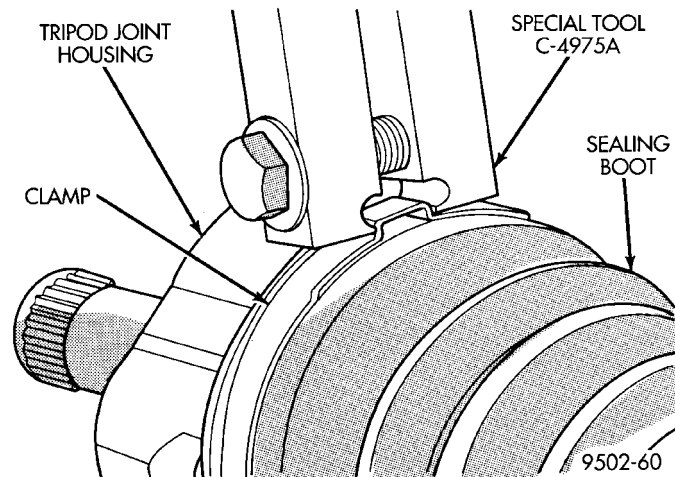

Fig. 52 Crimping Tool Installed on Sealing Boot Clamp
(8) Position outer C/V joint sealing boot into its retaining groove on outer C/V joint housing. Install sealing boot to outer C/V joint retaining clamp evenly on sealing boot.
(9) Clamp sealing boot onto outer C/V joint housing using Crimper, Special Tool C-4975-A and the following procedure. Place crimping tool C- 4975-A over bridge of clamp (Fig. 52). Tighten nut on crimping